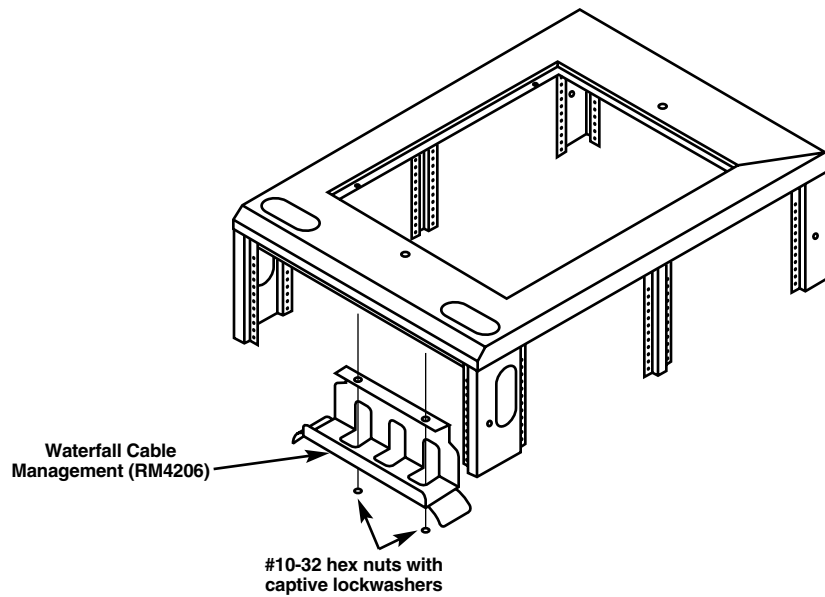

Figure 3-3. Inside view.
1. Position the unit as shown in Figure 3-3.